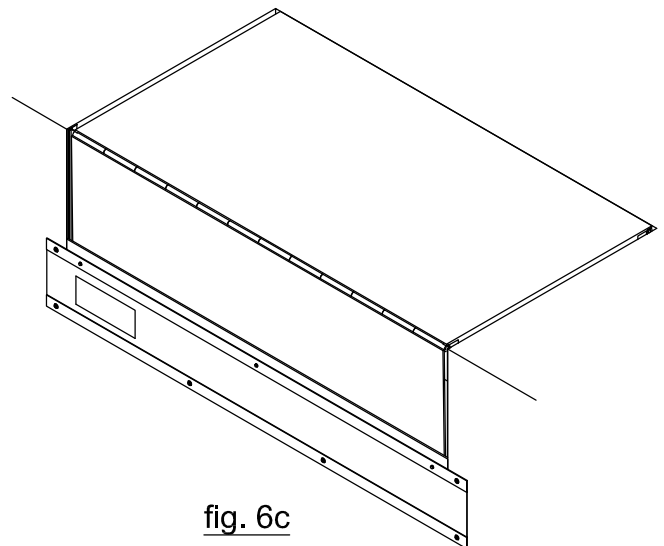

fig. 6c
- a. Mark four hole locations along bottom edge (middle of stay) with the outer holes at 2" in from edges. Holes should be evenly spaced (fig. 6c).